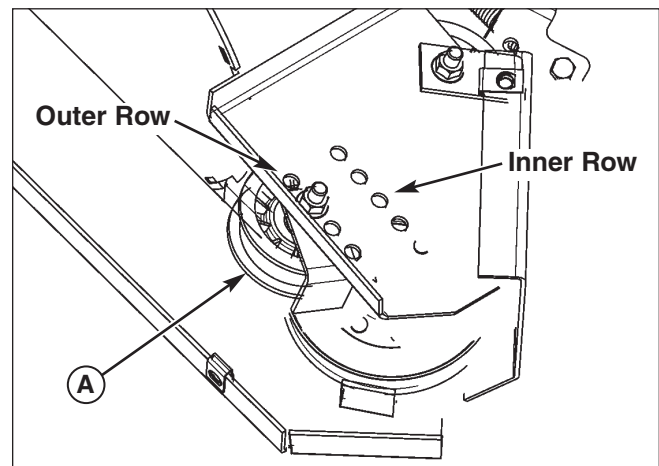

Figure 13. Check Idler Pulley Position
- Check the position of the idler pulley (A, Figure 13). The position must be aligned with the position of the pulley (outer row of holes for pulley hub pointing in, inner row of holes for pulley hub pointing out). Reposition if necessary.